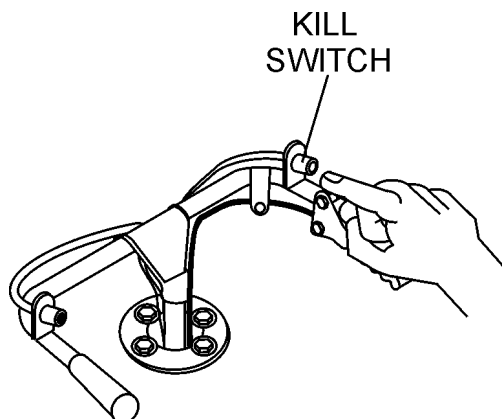

Figure 19. Safety Kill Switch
1. Before attempting to start the power buggy, make sure that the safety kill switch (Figure 19) is not pushed in. The power buggy will not start with the kill switch engaged.
1. Press the power buggy's kill switch (Figure 19) and listen for the engine to stop.